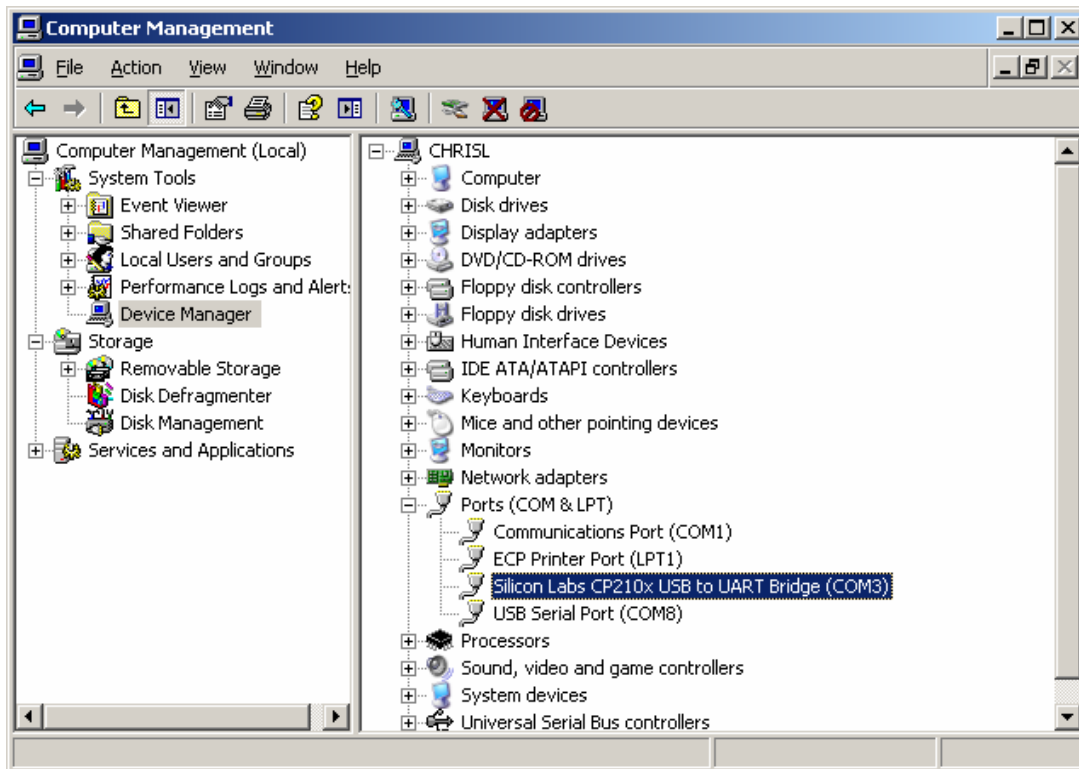

Figure 39
6. Double click the category **Ports (COM & LPT)** to expand the list of serial and parallel port devices. If the drivers have been installed on the computer and the Interface Box is plugged in, a device named **Silicon Labs CP210X USB to UART Bridge** should appear similar to what is seen in Figure 39.